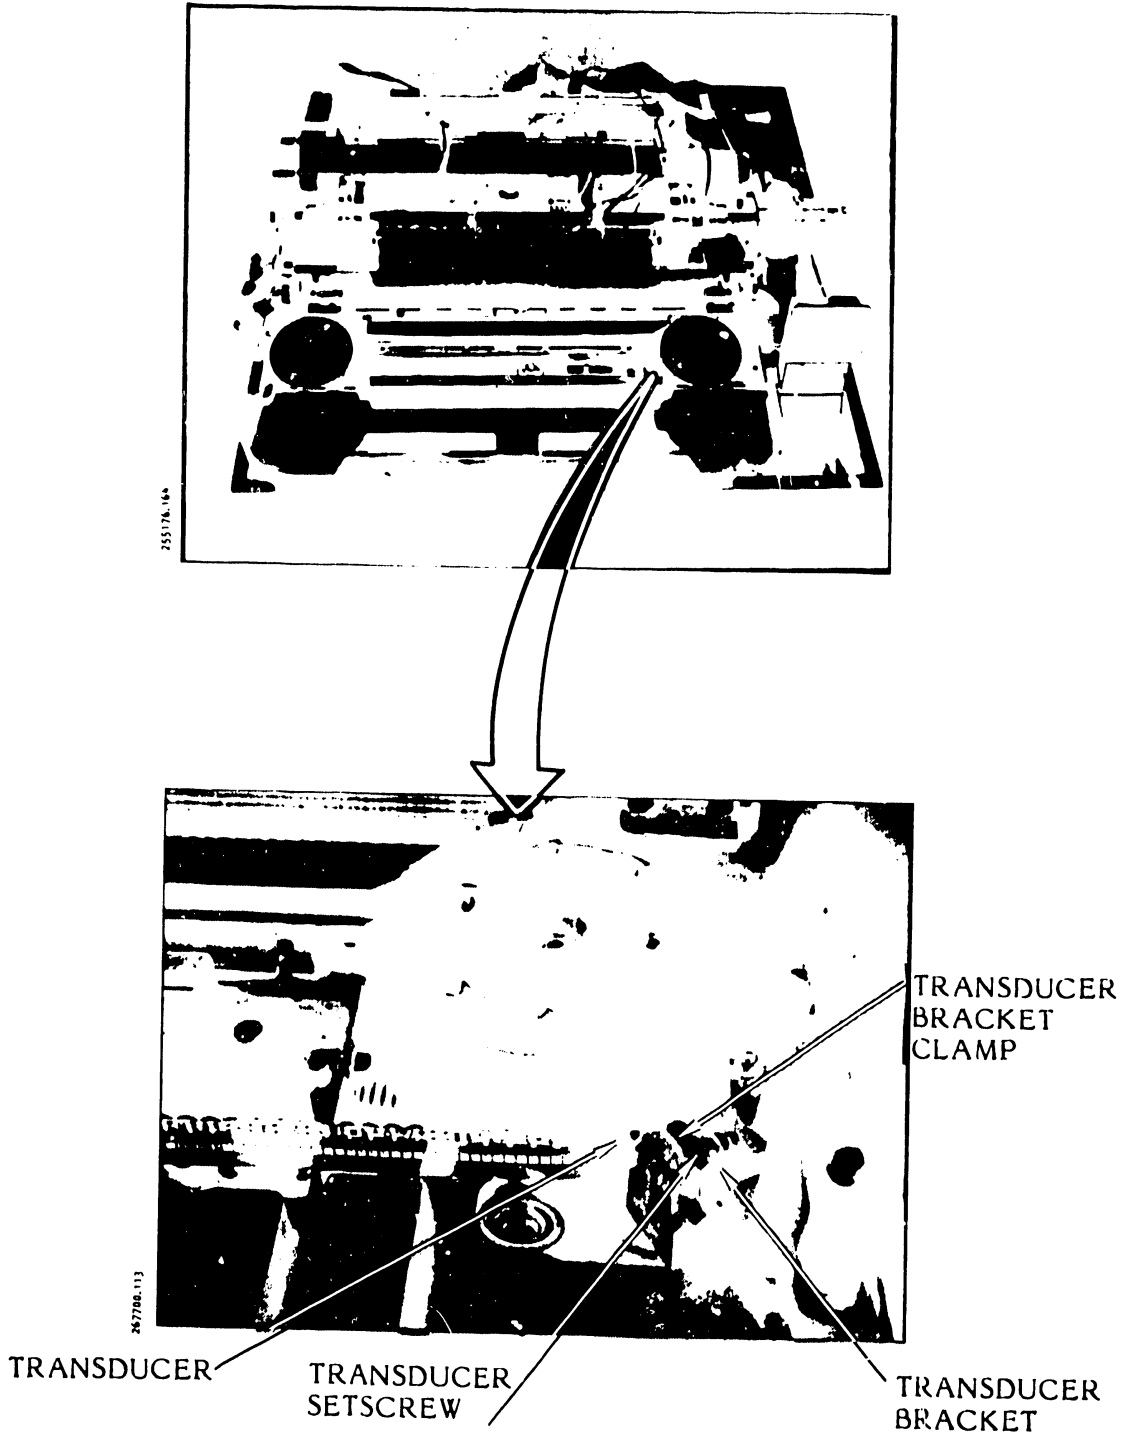

Figure 3-133. Transducer Assembly Removal/Installation
3.7.64 Transducer Assembly Removal/Installation (Figure 3-133)